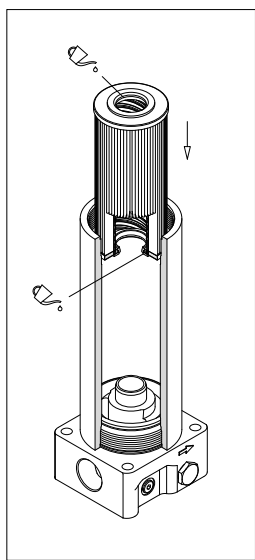

fig. 25
- (Fig. 25) Lubricate with the operating fluid the filter element seals, then fit the filter element on the tap. Pay attention not to damage the seal.